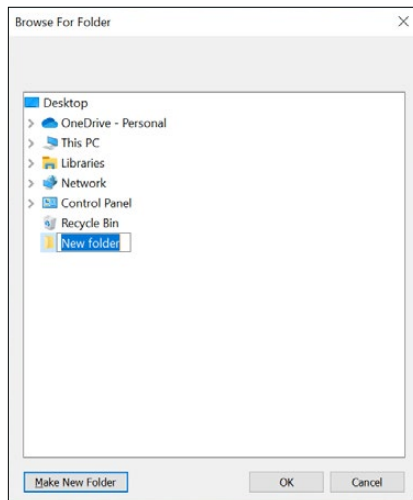

Fig. 4. Creating a folder that will hold the Input and Output Folders the tool uses.
- c. Click **Desktop** to highlight it. Then click the **Make New Folder** button at the bottom of the pop-up window (Figure 4).